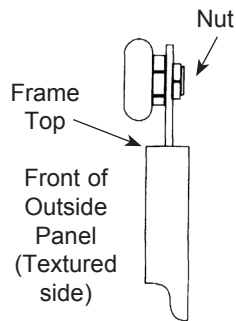

Figure 5B
- A. Use two #8-32 x 3/8" HWH Screws (#17) to attach two Rollers (#11) to the top of the Outside Framed Door Panel (#5) with the Rollers (#11) on the front surface of the Top Rail (#10). The metal parts (the Nut side) should be against the frame, as shown in Figure 5B.